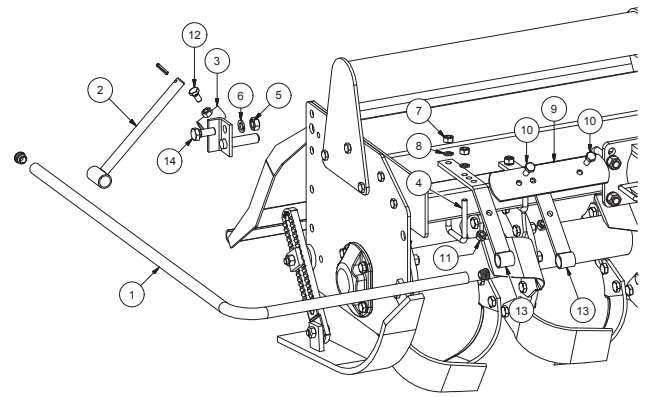

FIG. 14
1. Fit rear support (3, Fig. 14) with screw (14), nut (5) and washer (6).
2. Insert the support (2) securing it into position with the bolt (12).
3. Insert the longest side of the guard (1) into the rear support (2) and insert the front supports (13) into the guard (1).
4. Fit front supports onto the front tube of the machine by means of U-bolts (4), nuts (7) and washers (8).
6. Fit the plate (9) onto the front supports (13) by means of bolts (10) and nuts (11). No tightening at this stage.
7. Drag the front supports (13) onto the tube, positioning the outer U-bolt (4) at 50mm from the side of the machine.
8. Tighten nuts (7).
9. Tighten bolts (10).